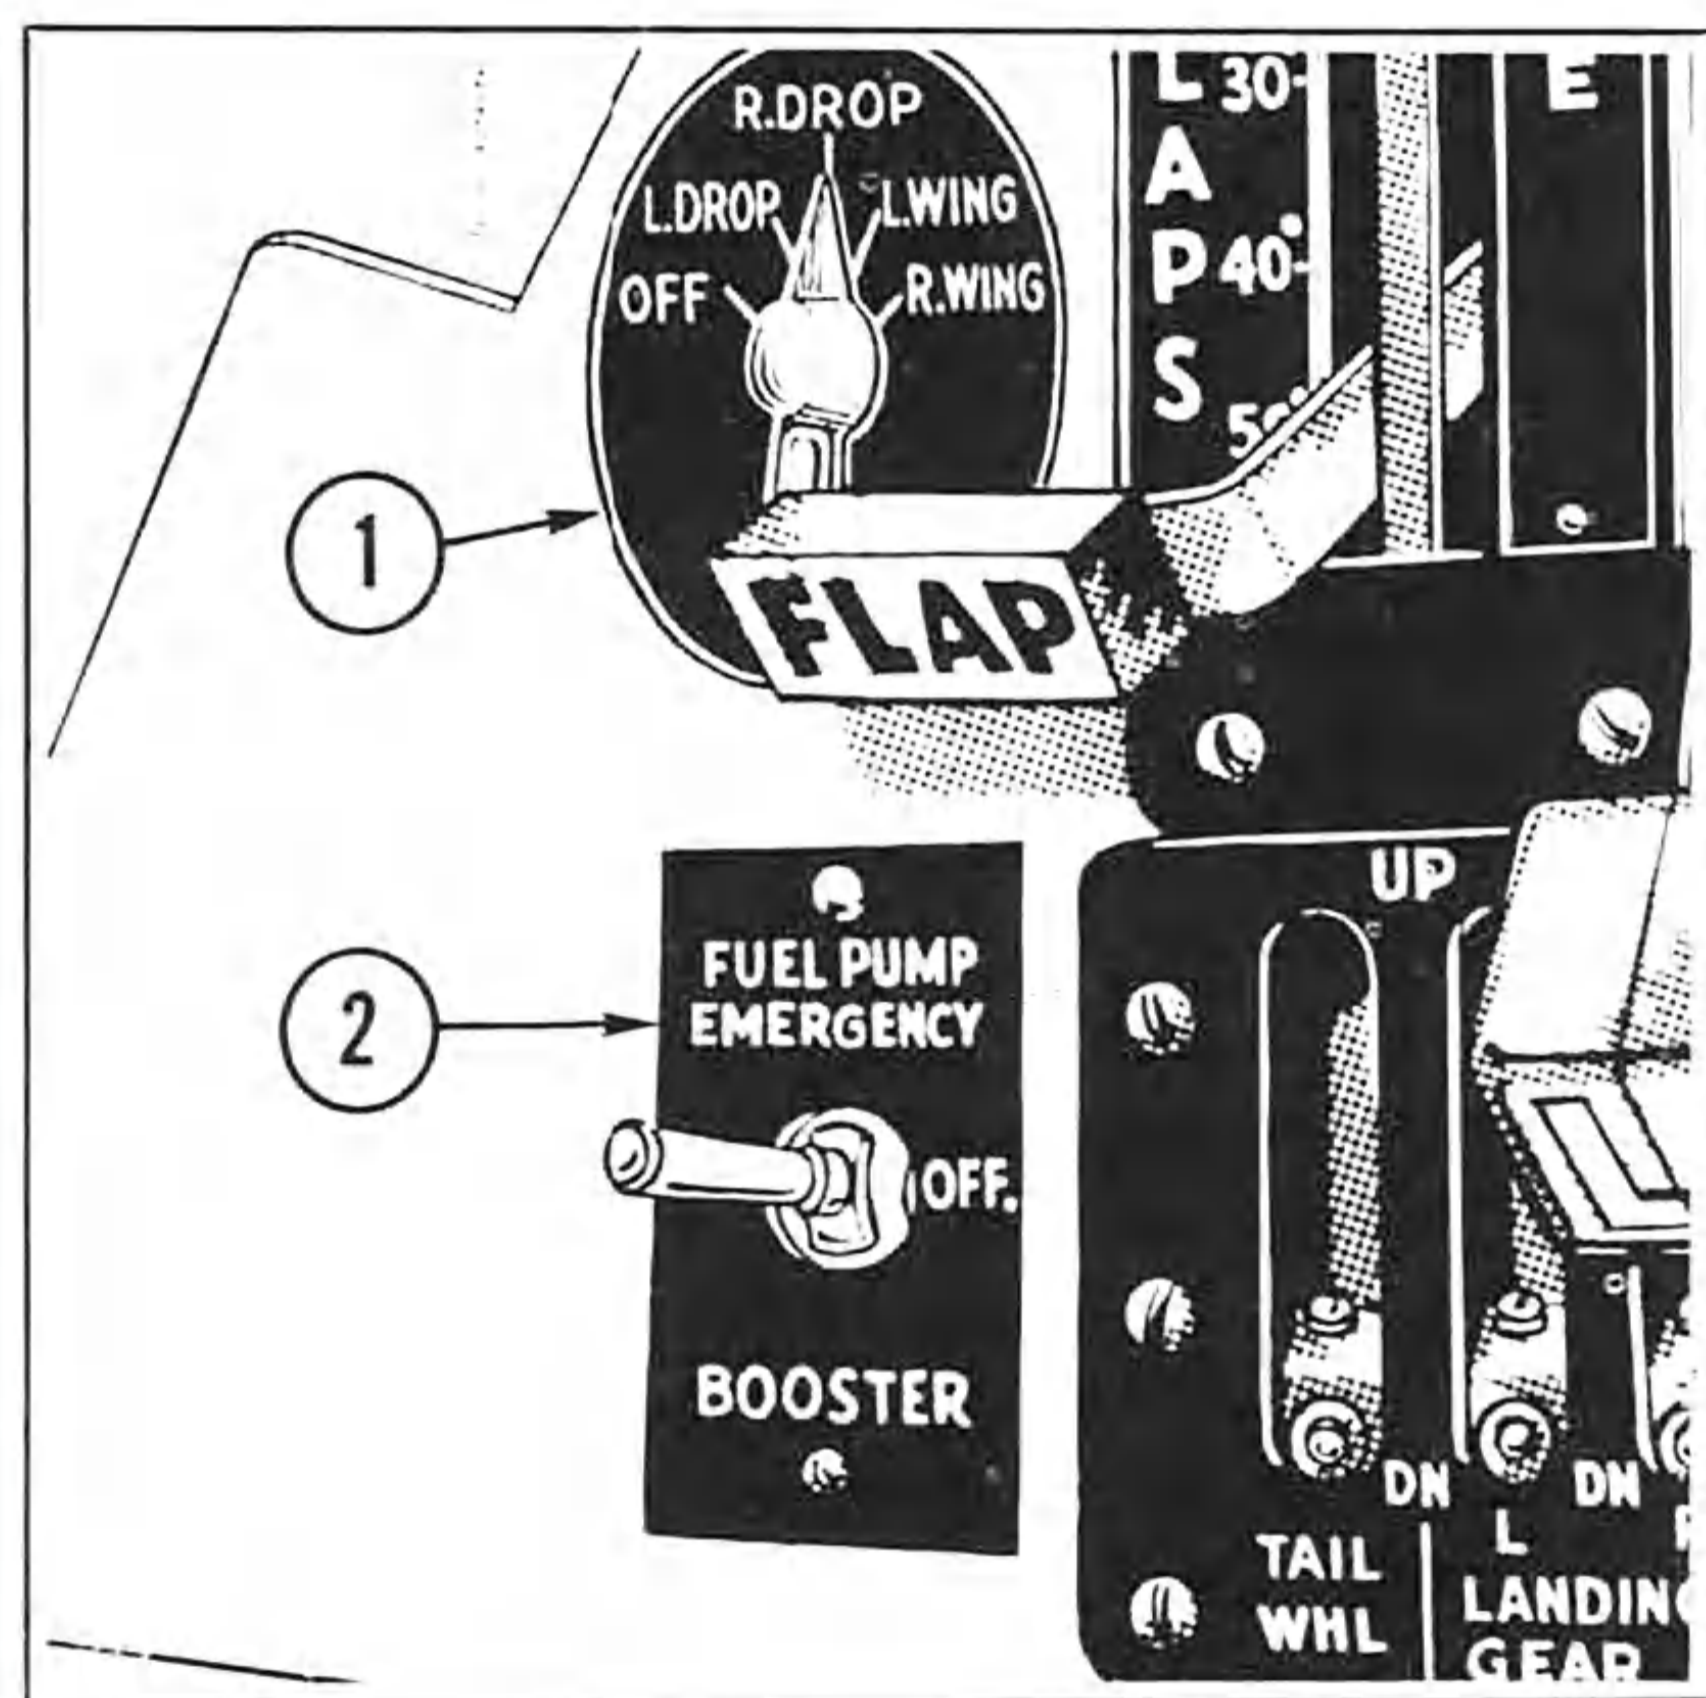

Figure 34 — Fuel System Switches
a. FAILURE OF ENGINE DRIVEN PUMP. — In the event that the engine driven fuel pump should fail to deliver fuel to the carburetor at required pressures, switch the submerged pump to **EMERGENCY** operation. (See 2, figure 34.) Otherwise, management of the fuel system should be normal. (Refer to section II, paragraph 3,a.)
(1) Switch the submerged pump to **EMERGENCY**. (See 2, figure 34.) If failure of the transfer system is due to trouble in the microswitch on the fuel tank selector valve or in its relay, turning the submerged pump switch to **EMERGENCY** will permit the transfer system to function normally once more.
(2) If the above procedure does not correct